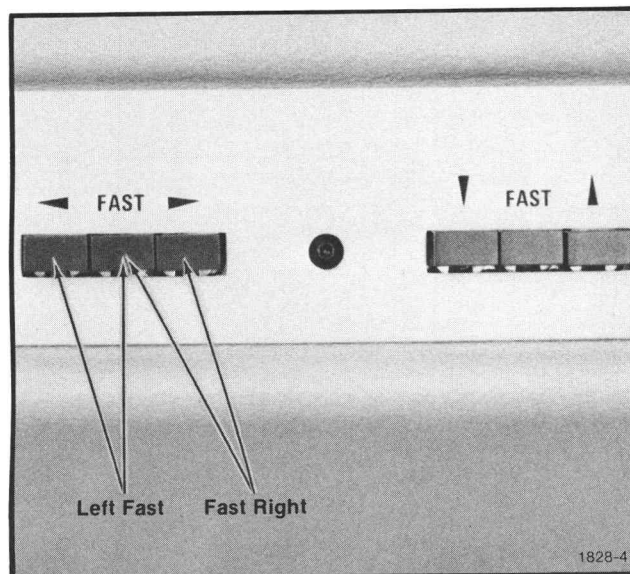

Fig. 1-10. Fast horizontal moves.
4. Draw a horizontal line by pressing the pen positioning switches for fast manual move. See Fig. 1-10. Press the PEN switch to lift the pen. The line should be parallel to the grid lines on the graph paper.